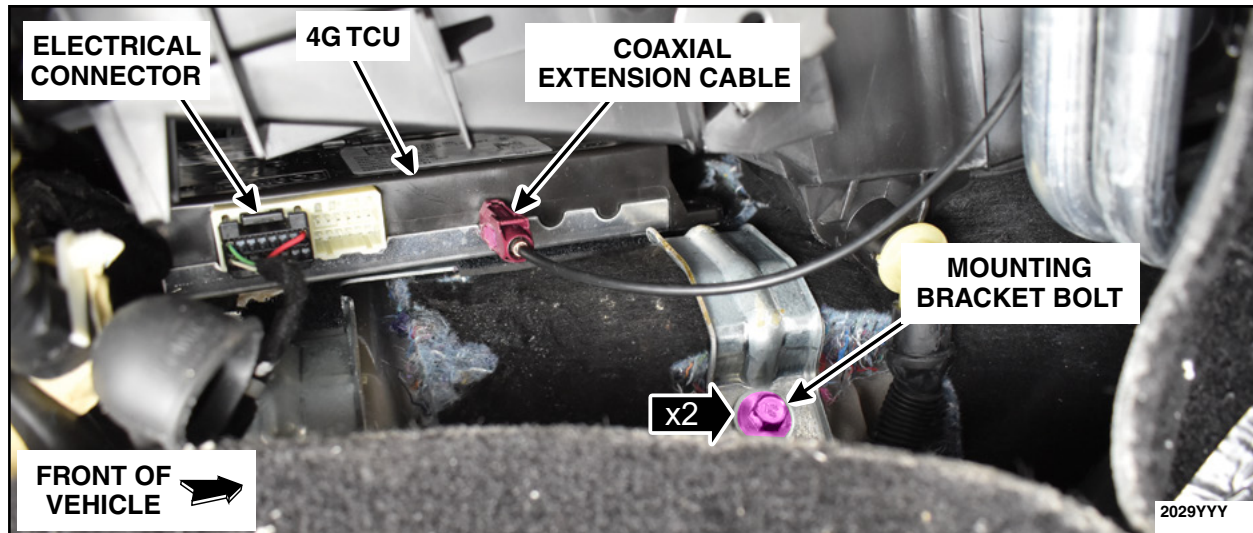

FIGURE 10
11. Install the 4G TCU and mounting bracket assembly. See Figure 10.